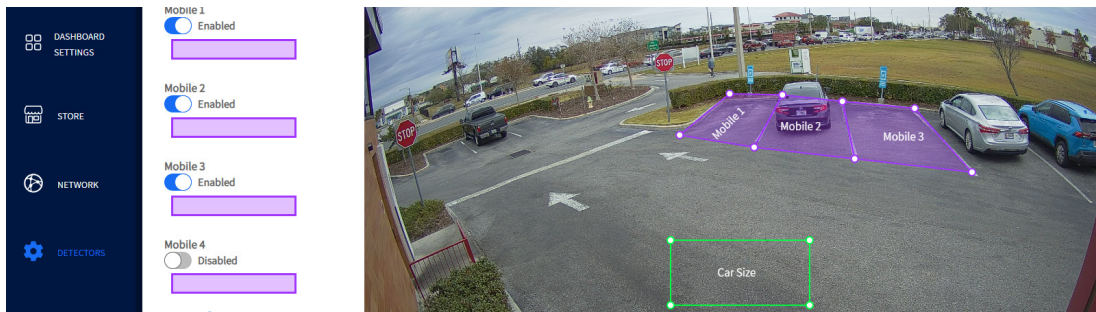
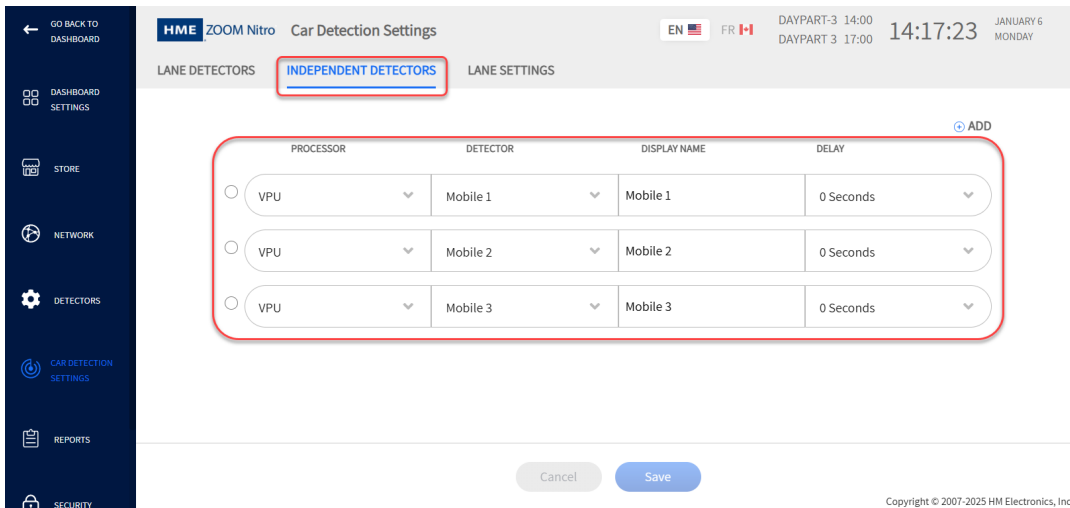
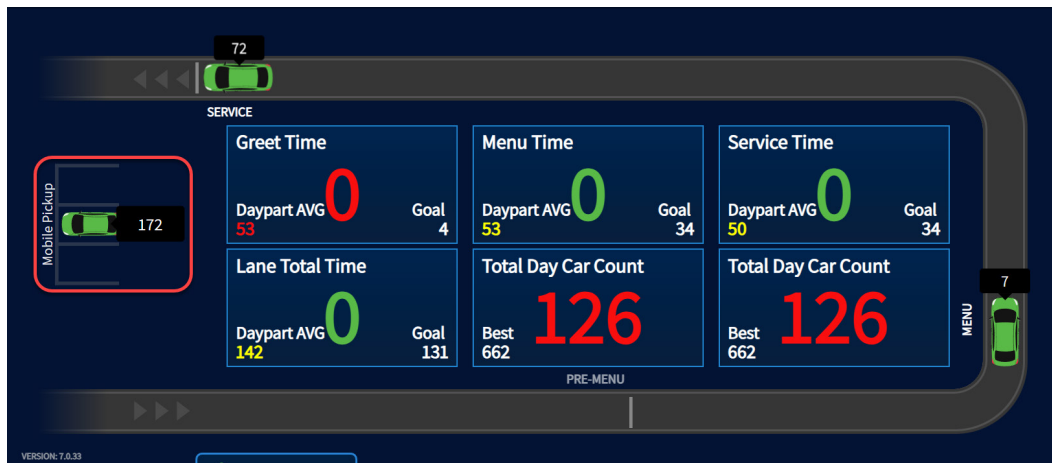
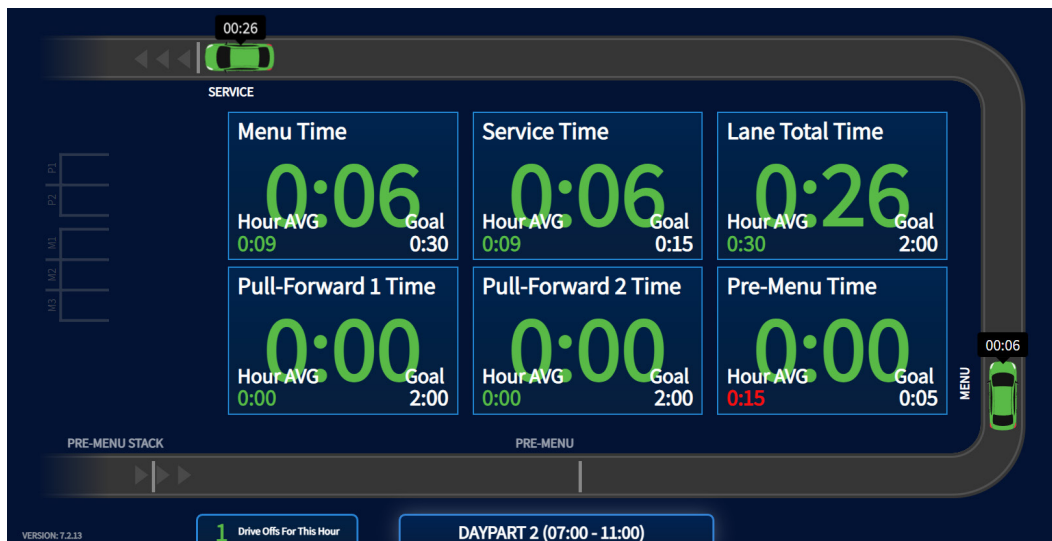

Fig. 25
Fig. 33
Fig. 36
Fig. 37
- Repeat the process for additional mobile spaces (up to four total per camera). Fig. 25 shows three mobile spaces configured. For easy identification, it is best practice to assign the space numbers in order (left to right here).
NOTE: When Pick-Up Zones are adjacent, like the ones shown in Fig. 25, the adjacent sides should overlap (i.e., no gaps can exist between the polygons). See first bullet point in Step 13. Gaps can exist if the polygons are not side-by-side (i.e., separated by a parking space, or by at least 3 feet). Pull-Forward and Mobile spaces can also alternate side-by-side. For example, the layout in Fig. 25 could be configured with two Mobile spaces and a Pull-Forward space in between (the space currently occupied by Mobile 2).
Use the +ADD icon to add rows based on the number of mobile spaces used (a maximum of four per camera). The example in Fig. 25 shows three mobile spaces, which are all added here in Fig. 33.
4. Fig. 36 shows where the Mobile spaces are displayed on the dashboard. The camera view in Fig. 25 shows a vehicle in Mobile space 2, which is reflected on the dashboard. If Pull-Forward spaces are used, they will appear in the same area on the dashboard (see Fig. 37).